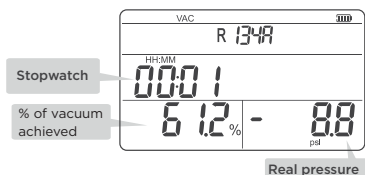

Fig. 4 VAC mode
7. The interface (Figure 4) displays the system pressure and the percentage of vacuum achieved as well as the vacuum duration, which starts when VAC mode is opened.